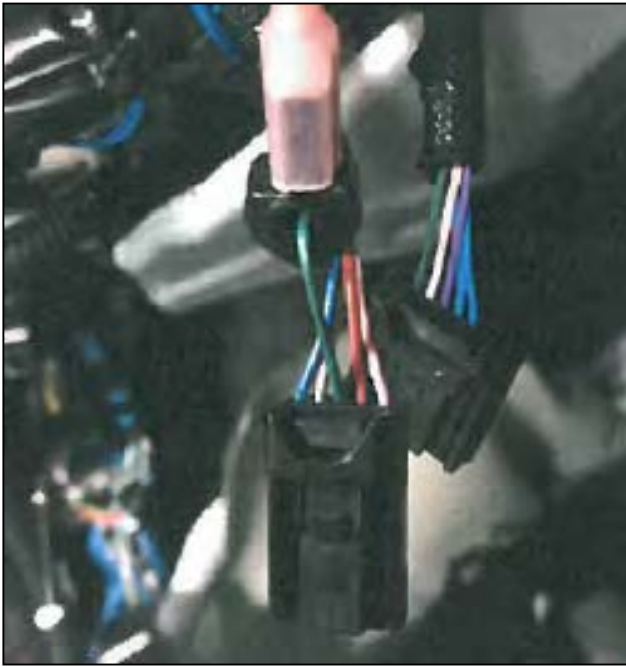

Figure 11A
15. Install a black T-Tap to connector F3, pin 3, green wire. Then connect the blue wire from DRL harness to t-tap. Connector F3 is located at the front window deicer dash switch. See Figures 11A and 11B.